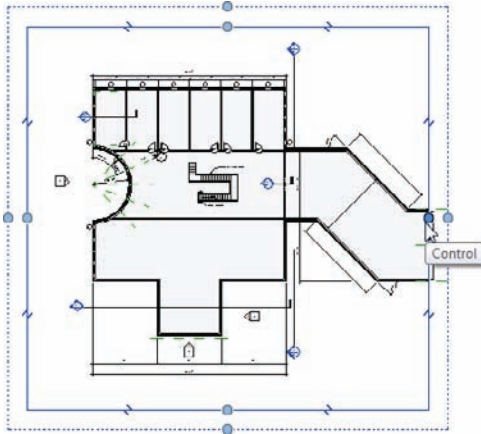

FIGURE 13.3 Dragging the crop region in the Level 1 West view
2. Select the crop region, as shown in Figure 13.3.
3. Drag the right side of the crop region to the position shown in Figure 13.3.